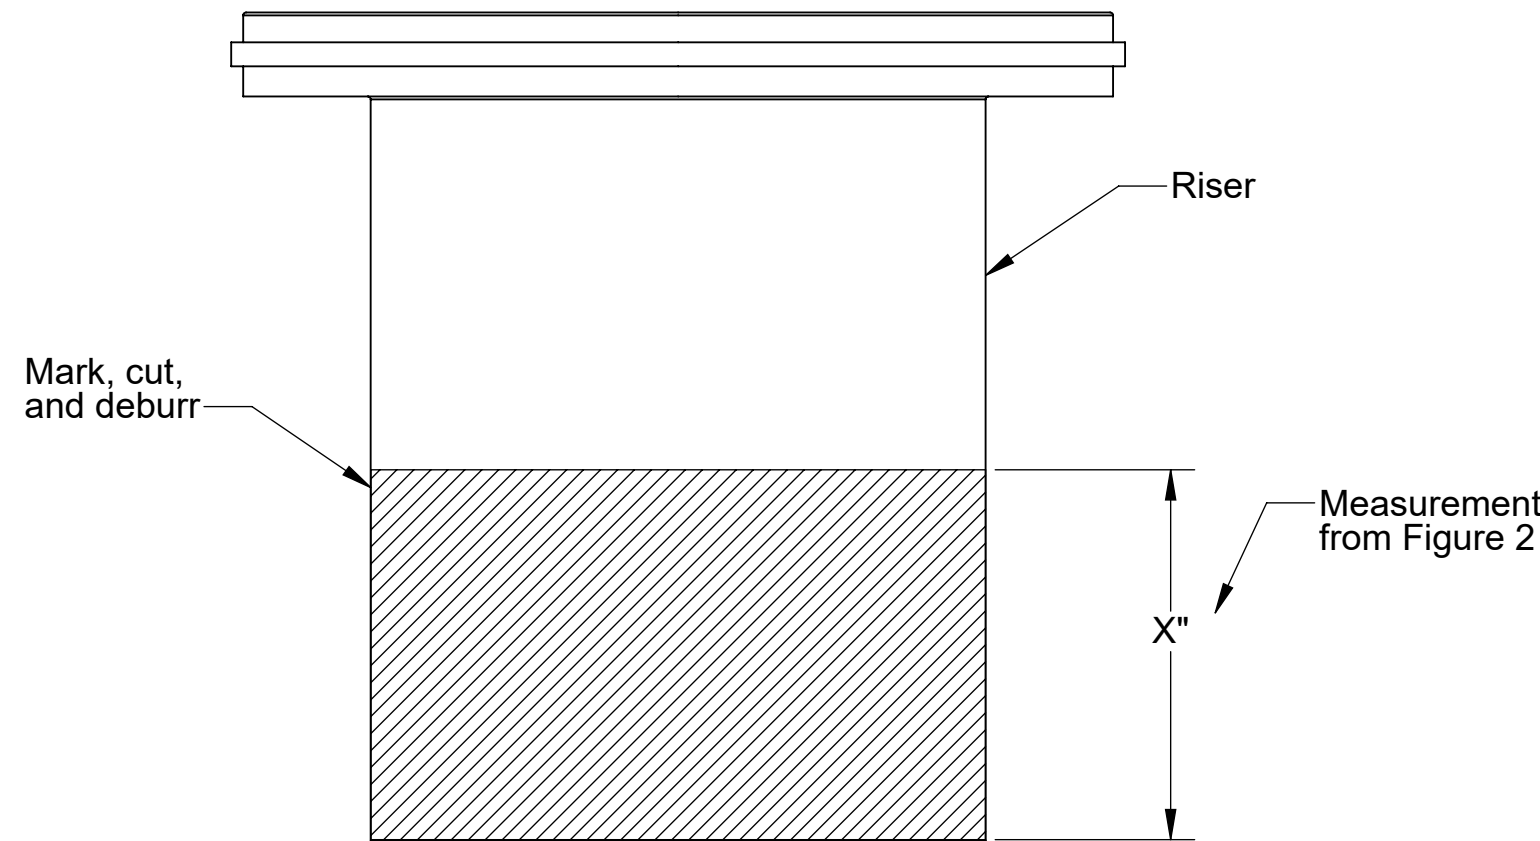

Figure 3
6. Remove riser from ring. Take measurement from step 5 from the BOTTOM of the riser upwards towards the top of the riser. Mark a line around the riser, and cut with handsaw, jig saw, or reciprocating saw. Remove debris from cut edge with scraper, utility knife, or gloves. See Figure 3.